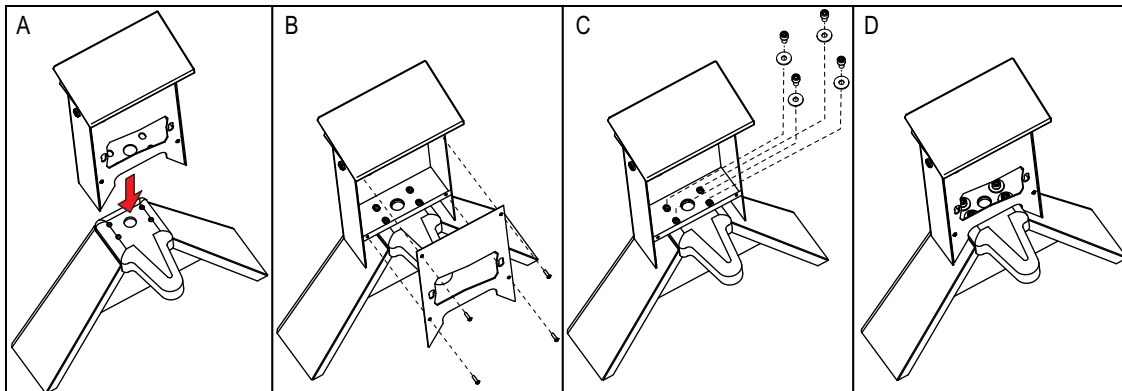

Figure 1. Indicator Stand Assembly
2. Place the indicator stand on the fork assembly, being careful not to pull or pinch the load cell wires (Figure 1–A).
5. Remove the four screws that secure the front plate to the indicator stand using a 2.5 mm hex key (Figure 1–B).
6. Secure indicator stand with four M10 x 15 mm screws and M10 washers using an 8 mm hex key (Figure 1–C).
7. Reattach the front plate to the indicator stand, using the four previously removed screws (Figure 1–D).